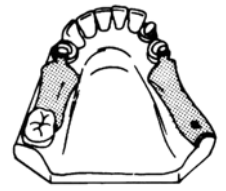

Fig. 23
1. Carefully block out the cast. Relieve the saddle areas. Assemble the attachment by inserting the male into the abutment female. Block out the back of the male with 32 gauge (0.3mm) sheet wax. This will provide adequate space for solder between the framework's vertical strut and the attachment (Fig. 23).